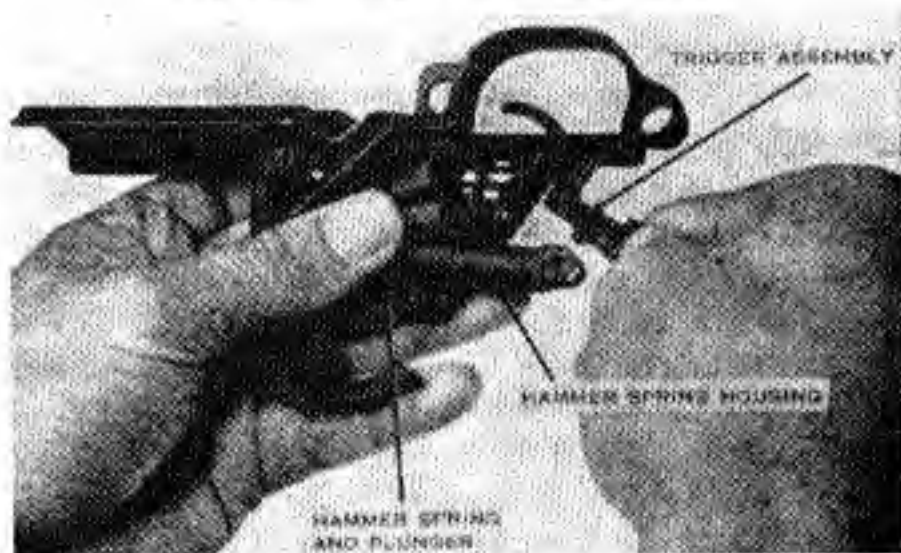

Fig. 73. Removing trigger assembly, hammer spring housing, hammer spring, and hammer spring plunger.
(2) Holding the trigger housing group in your left hand as shown in Fig. 73, remove the trigger assembly, hammer spring housing, hammer spring and hammer spring plunger.